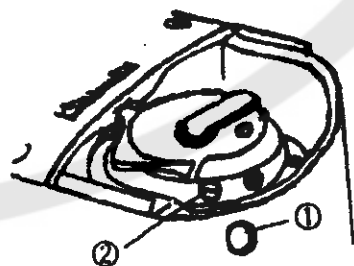

Fig.9
13. How to adjust the lower thread (Fig.9):